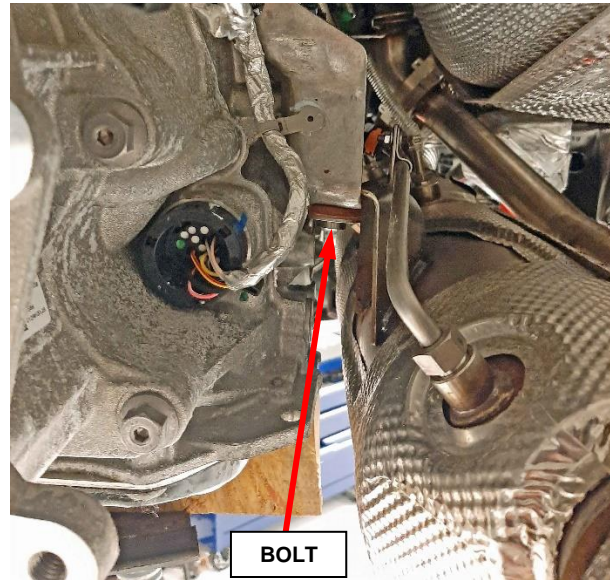

Figure 32 – Rear Steady Rest Bracket
40. Remove and **DISCARD** the DPF to transmission rear steady rest bracket bolt and two red rubber isolators, they will be replaced (Figure 32).